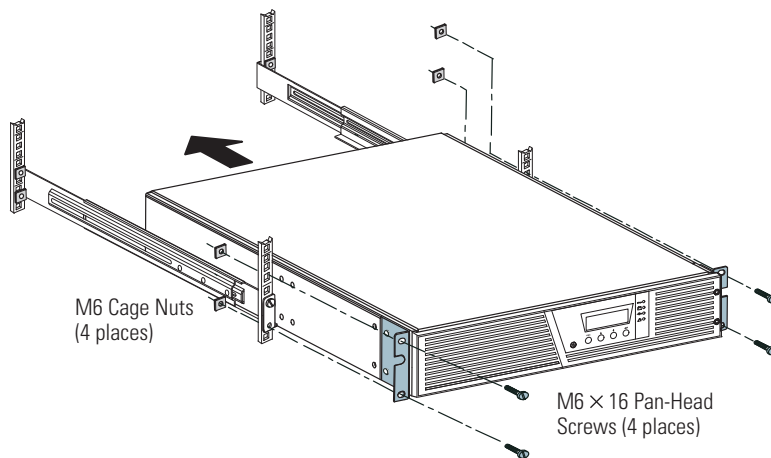

**Figure 6. Installing the Mounting Brackets (Forward Position Shown)**
9. Align the mounting brackets with the screw holes on each side of the UPS and secure with the supplied M4x8 flat-head screws (see Figure 6).